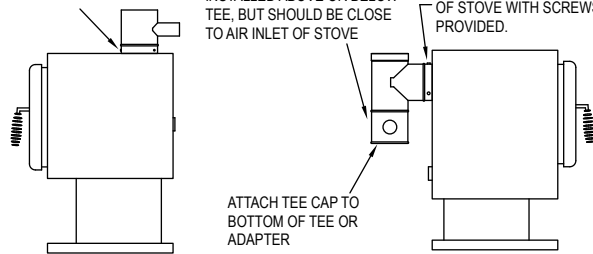

Figure 6
Step 3. Install CAS Connector Pipe. After the CAS Ceiling Support is installed and the stove is located, the CAS Connector Pipe can be installed. If the stove is a top-exit stove, then the female end (with pre-punched holes) of the CAS Adapter goes directly onto the stove's outlet collar, with the air intake branch of the Adapter facing to the back of the stove (**Fig 6**). Secure the female end of the Adapter to the stove's collar with (3) 1-1/4" screws provided. Pre-drill the stove's collar for the screws, as needed. The CAS Triple Wall Stovepipe must have 6" clearance from walls and combustibles (running vertically) and 8" clearance from ceilings and combustibles (running horizontally).
If the stove has a rear outlet, a CAS Tee is required with the branch connecting directly to the stove's outlet. Secure the CAS Tee to the stove outlet with the (3) 1-1/4" screws provided. Pre-drill holes in the stove outlet, as needed. The CAS Adapter can be installed immediately above or below the CAS Tee (**Fig 6**) with screws provided. If installed below the Tee, remove the Tee Cap from the Tee and reattach the Tee Cap to the bottom